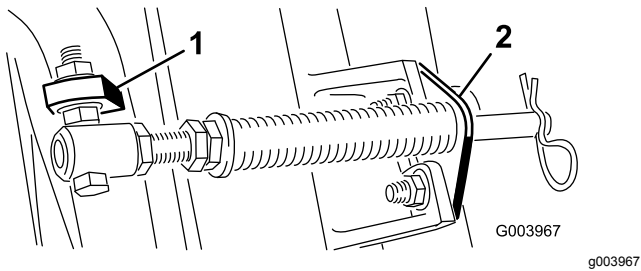

Figure 6
Note: Position the bolt head to the outer side of the tab as shown in Figure 6.
D. Mount the rod bracket to the cutting-unit tabs with the carriage bolts and nuts (Figure 6).